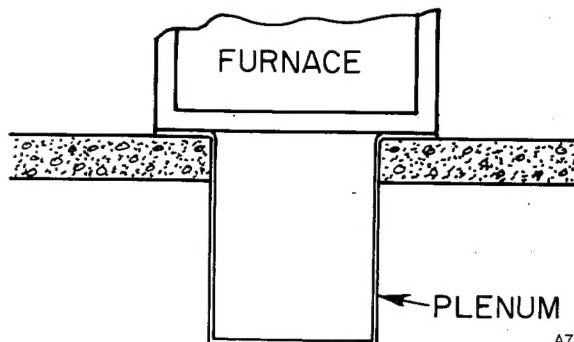

Fig. 4—Furnace on a Concrete Slab
- Place plenum and furnace as shown in Fig. 4.